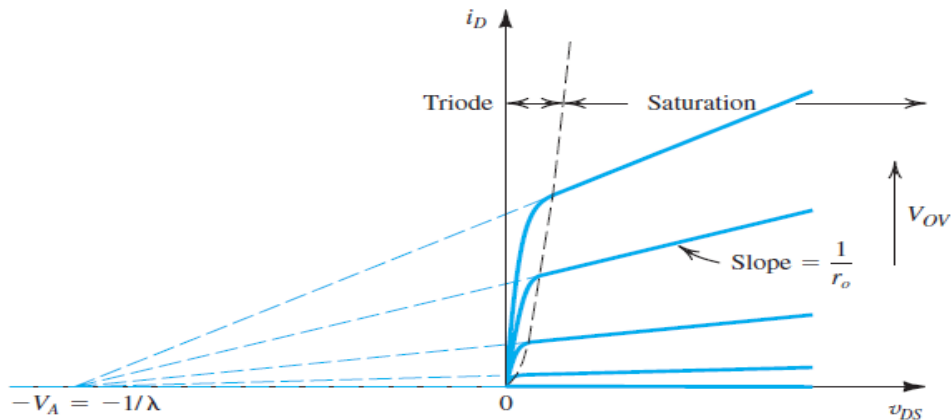

Figure 3: Calculation of λ from $i_D - v_{DS}$ characteristics of an NMOS
7. Plot the $i_D - v_{DS}$ curve and find λ as shown in fig. 3 for both PMOS and NMOS.